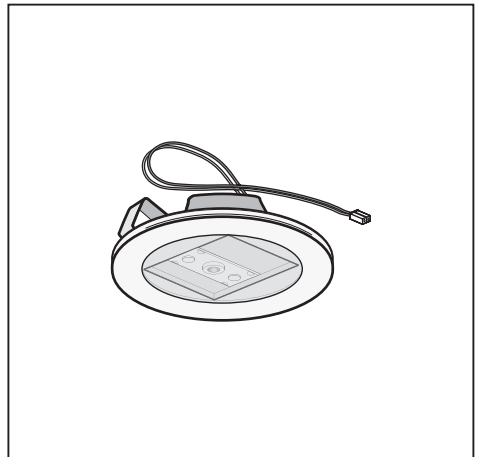

Fig.10
• Replacing LED lamps (Fig.10):